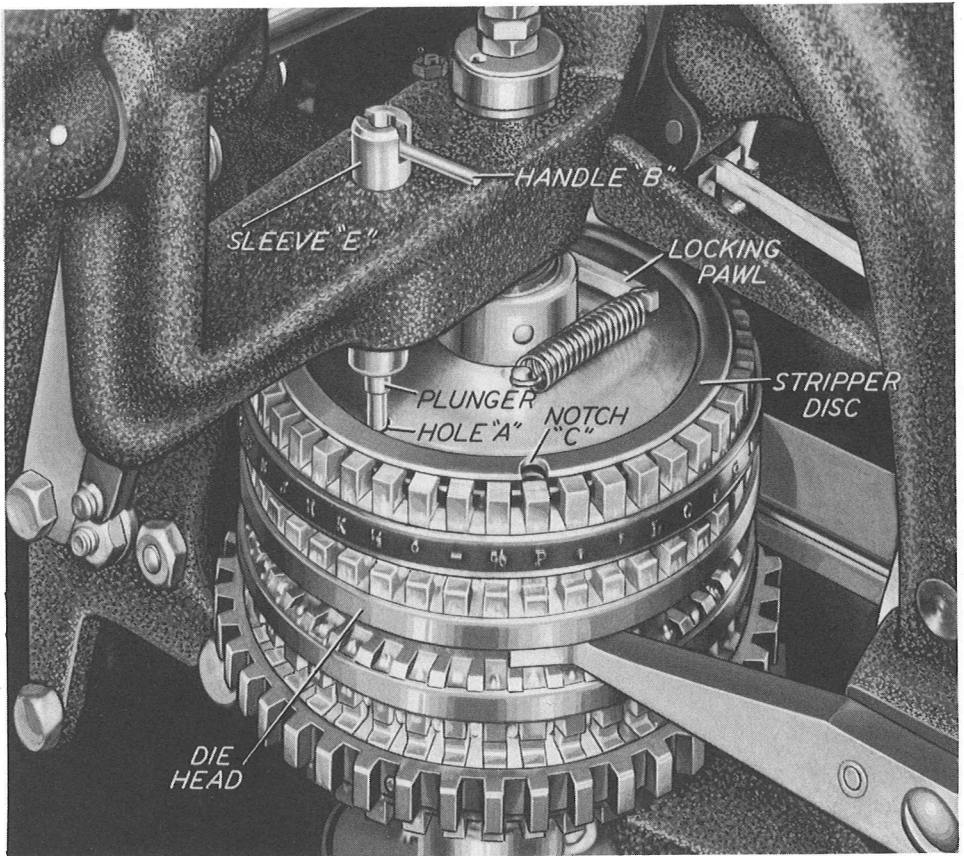

FIGURE 10. View of Class 6340 Die Head
1. Facing the rear of the machine turn the die head by hand until the hole "A" (figure 10) in the stripper disc is directly beneath the bottom end of the plunger, as shown in figure 10.
2. Lower the plunger by turning the handle "B" until it locates in the *deep* slot in the sleeve "E", as shown in figure 10. This will permit the lower end of the plunger to drop into the hole "A" in the stripper disc.
3. Turn the die head clockwise until the die to be replaced is located directly beneath the notch "C" (figure 10) in the stripper disc. Then remove the die by pushing it upward through the notch "C" in the stripper disc. **NOTE:** With the plunger located in the hole in the stripper disc, more effort will be required when first starting to turn the die head. However, after it is disengaged from its locking pawl, the die head will then turn with comparative ease.